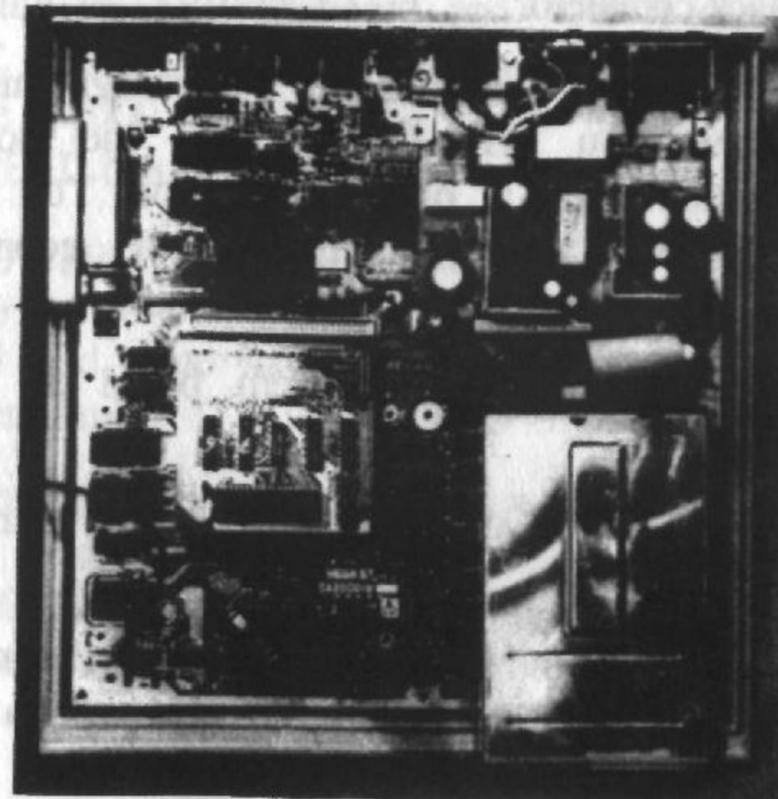

Figure 5: System board of a Mega ST
5. Now remove the metal shield by straightening the 11 metal clips (you may have to lift the disk drive a little to get at one of the clips) and, if they are present, removing the 8 screws. When removing the shield you may have to lift up the floppy disk drive a little so that the disk drive fits through the opening. (You should now see the system board as illustrated (Figure 5).
7. Position the PC-Speed module on top of the 68000 processor as shown in figure 5.